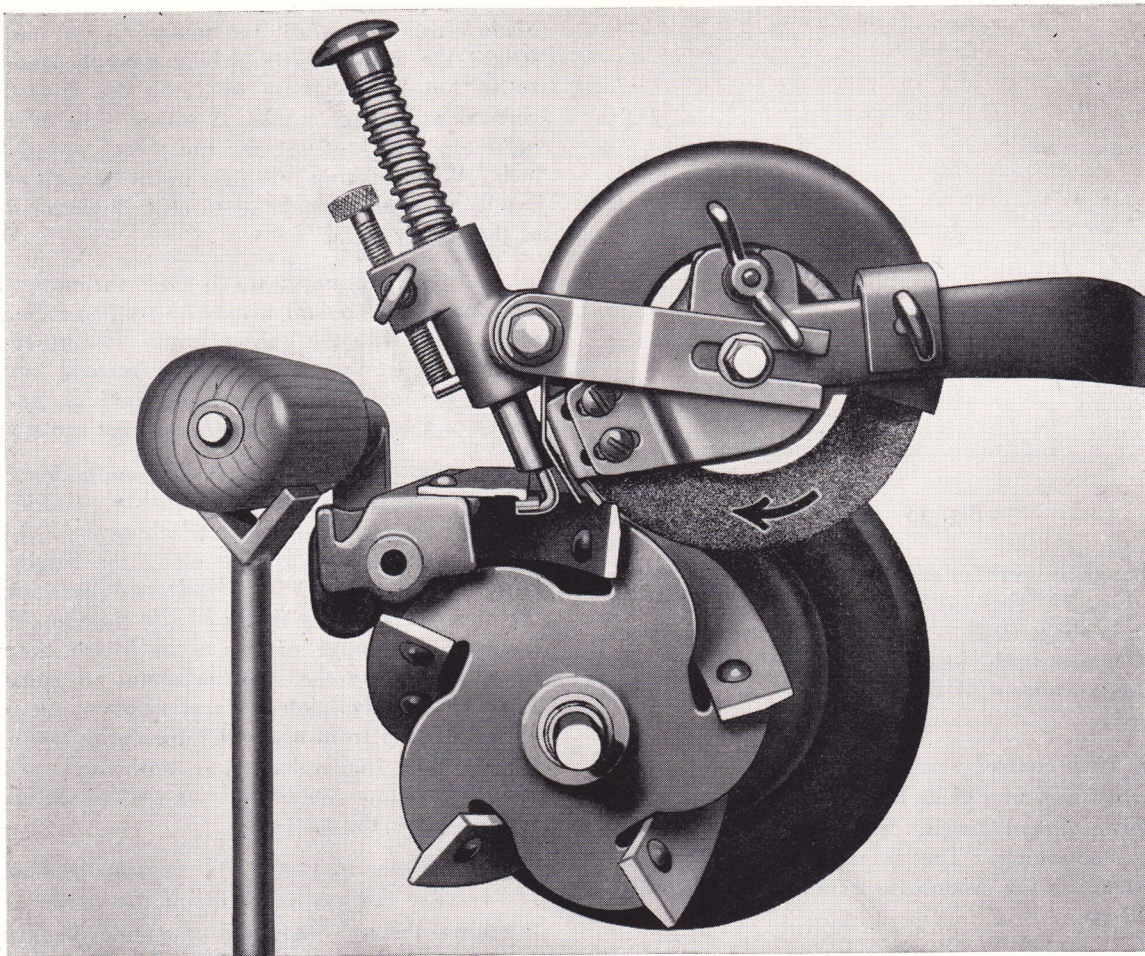

Fig. 16
76. The feed control screw (2, Fig. 4) should be turned in at least half way of its length as shown in Fig. 16 to allow ample thread length for feeding the grinding wheel while sharpening. The finger point (6, Fig. 4) should be rotated as far around the grinding wheel toward you as it will go.
82. (Refer to Fig. 16.) Engage the hook under the bed knife at the left hand side of the mower and again determine if the reel blade will pass under the grinding wheel coming within $\frac{1}{16}$ or $\frac{1}{8}$ " of it. If your adjustments have not disturbed this condition you are ready to set the bevel. If the blade strikes the wheel or clears it by too great a distance, it is again necessary to raise or lower the mower until the desired position is reached. When the bed knife is within this distance of the grinding wheel, rotate the reel blade back and forth under the wheel and, with the feed control screw turning in a counter clockwise direction or un-screwing it, cause the grinding head to lower and the wheel descend until the reel blade you are rotating back and forth just contacts the grinding wheel lightly. This is the position at which the diameter of the reel contacts the diameter of the grinding wheel and will be referred to as the "no clearance" point. If the finger point J-28C (#1- Fig. 4) were to be set in this position the reel blades would be ground without any bevel or clearance behind the cutting edge. Therefore rotate the reel blade toward you past the no clearance point of the grinding wheel and turn the feed control screw, on which there is a mark to indicate the position, clockwise one-half to five-eighths of a single turn. This lowers the grinding wheel slightly and when you rotate the reel blade back you will find that it strikes the grinding wheel and cannot pass under it. The grinding wheel now touches behind the cutting edge. Holding the reel blade at this contact point with the grinding wheel rotate the J-28C finger around the wheel until it contacts the reel blade and holds it against the wheel at this point. If the wheel were permitted to lower more than the amount allowed the one-half to five-eighths turn the amount of bevel or angle would be greater. On some hand mowers you may find it desirable a clearance angle obtained by about
a three-quarter turn of the feed control screw. On power mowers and heavy duty mowers, about a half turn will be sufficient. With this method it is possible for you to set the same amount of bevel angle on any mower by the amount you turn the feed control screw after the determining the "no clearance" point of the wheel and reel. This is the only method we know of where the exact bevel angle can be duplicated again and again on any mower and it can be altered to suit the individual. Lock the J-28C finger point in this position and you have the bevel set for grinding the reel blades. See Fig. 16.
83. You may now rotate the grinding wheel by hand, using the reconditioner pulley on the left side of the motor as the hand wheel. Turn the grinding wheel in the direction indicated in Fig. 16. The grinding wheel should scratch the reel blade lightly. If it does not, turn the feed control screw until it does. If you can't turn the wheel, turn the feed screw clockwise to relieve the pressure. Now move the grinding carriage to the right end of the mower in contact with the same reel blade. If necessary disengage the hook to move the carriage. If the grinding wheel does not scratch the same at the right hand side as it did on the left, use the horizontal adjusting crank P-230 on the right hand side to move the mower in or out until the same amount of contact is obtained, (without changing any other adjustments.) Now move the carriage back to the left hand side on the same reel blade and recheck the scratching contact there. If one side of the mower is moved to any ex-
84. Set the carriage stops so that the hook has room to disengage at one end of the bed knife and re-enter at the other end. These stops will prevent the carriage from traveling too far and possibly grinding into the side frames of the mower. Now number the reel blades with chalk using the blade on which the adjustments were made as No. 1. Roman numerals serve best and you should rotate the reel blades toward you numbering them in that order until all are numbered. The mower shown in Fig. 16 has a five-bladed reel with a right-hand twist. This is the most common type and the proper direction of grinding wheel travel is from left to right. The weight feed can be wound on the cable drum in such a manner as to cause the grinding head to feed left to right. For mowers with a right hand twist spiral the weight feed should be allowed to wind
86. Before you begin to grind, we suggest you practice engaging the reel blades with the grinding wheel a few times before starting the motor. Fig. 16 shows how the reel blade is engaged between the finger point and the grinding wheel. The blade should be started just behind the point of the finger allowing the taper of the finger to guide the blade down to the contact point with the grinding wheel. Use the right hand to guide the reel at the extreme end of the reel blades below the cutting edge, then if the grinding wheel should accidentally kick the reel around, you will not be cut. Also be sure that the mower is set so that the hook is in contact with only the cutting edge of the bed knife as shown in Fig. 16. If the hook should slide on a surface behind the cutting edge of the bed knife, then the reel blades would not be ground to correspond with the cutting edge which they will shear against.
9. Do not fail to keep the J-25C hook set as close to the grinding wheel as possible. See Fig. 16 for the correct setting.